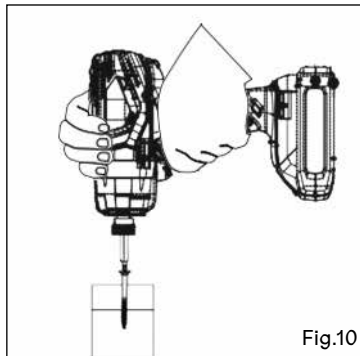

Fig.10
3. Insert the screwdriver bit fully into the screw head (Fig. 10).